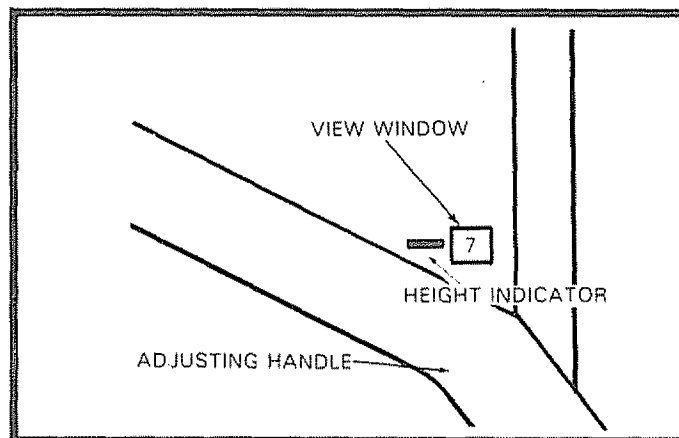

FIG. 13
- Your lawn mower is equipped with a Single Point Height Adjuster that sets all four (4) Wheels at one cutting height.
- Seven (7) height of cut positions are available from position 1 through position 7.
- Position one (1) is approximately a 1" cutting height - position seven (7) is approximately a 4" cutting height (See Fig. 13).
- Your lawn mower is shipped in position 1. Adjust to desired height of cut position (See Fig. 13 & 14).
- The height of cut numbers 1 through 7 are shown in an opening located above the Adjusting Handle (See Figs. 13 & 14).